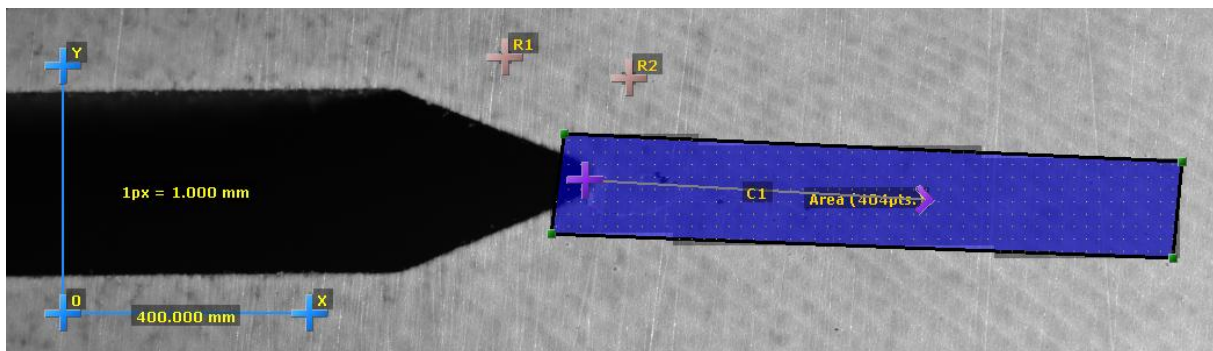

Figure 76: Crack probe over a full-field area
- **Compact Tension (CT) method** - This method is requires full-field measurement and can be performed only in postprocessing. This method uses a strain measurement on the surface of the specimen for its evaluation, and therefore a **full-field area** (see Area Probe) is necessary as well. The conditions for a proper measurement with the crack probe are as following:
- ❖ It is helpful to use rigid plane probes (see Rigid Plane Probe) to remove the motion of the surface in the image. As seen in Figure 76, two or more Rigid Plane Probes are input to remove the rigid body motion in the camera view for better detection of the crack.